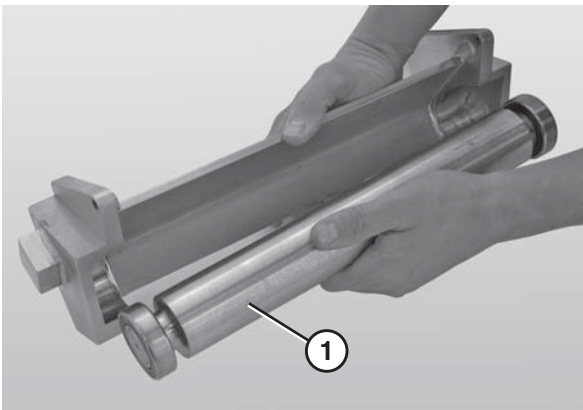

Figure 74
6. Remove the nose bar return spindle (Figure 74, item 1).